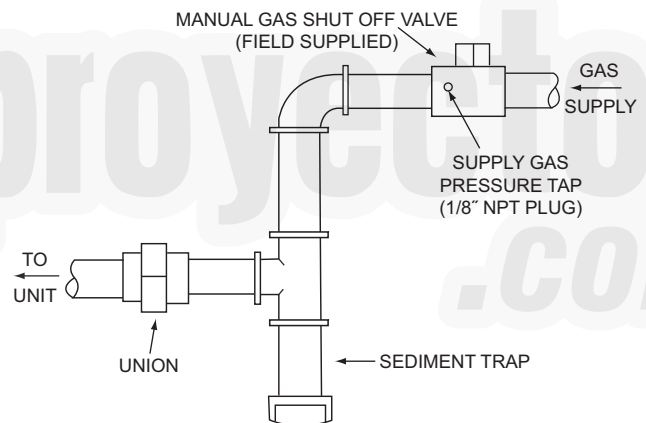

Fig. 10 — Field Gas Piping
2. Connect a pressure gage to the supply gas pressure tap, located on the field-supplied manual gas shut off valve (see Fig. 10).